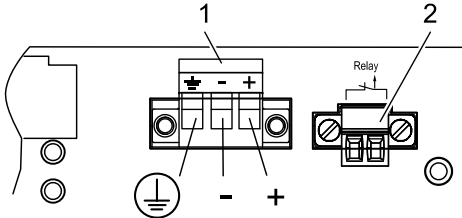

Figure 6: Device with power unit “L”, DC voltage (18...60 VDC)
- The signal contact monitors proper functioning of the device, thus enabling remote diagnostics. You can specify the type of function monitoring in the Management. Pin assignment: see fig. 6 and fig. 7.